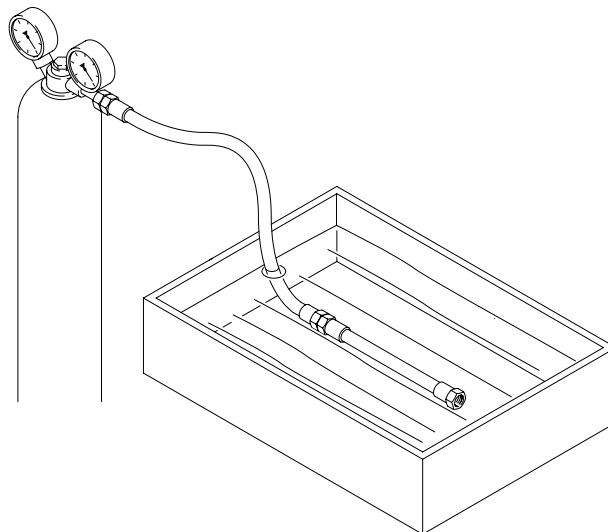

Fig. 4.6
- Seal the hose lines and test them for leaks using nitrogen or dried compressed air by placing them in a water bath (test pressure approx. 35 bar) (Fig. 4.6).